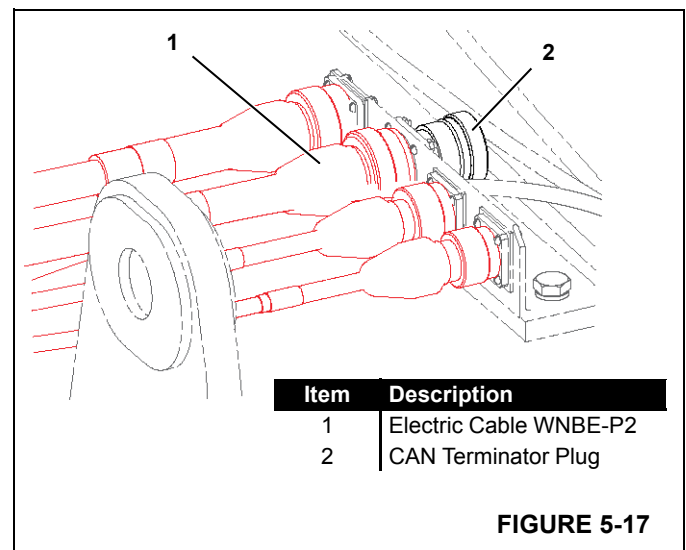

FIGURE 5-17
12. Connect electric cables from the boom butt to the storage receptacles (Figure 5-17) on the front roller carrier. **You will get CAN faults and not be able to operate functions if you fail to connect electric cable (1) to terminator plug (2).**